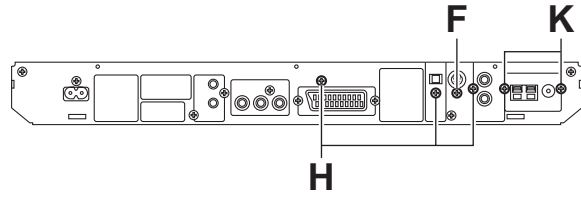

Fig.7
3.1.4 Removing the DSP board (See Figs.7 and 8)
- (1) From the back side of the main body, remove the screw **F** and three screws **H** attaching the DSP board to the rear panel. (See Fig.7)
3.1.5 Removing the tuner (See Figs.7 and 9)
- (1) From the back side of the main body, remove the two screws **K** attaching the tuner to the rear panel. (See Fig.7)